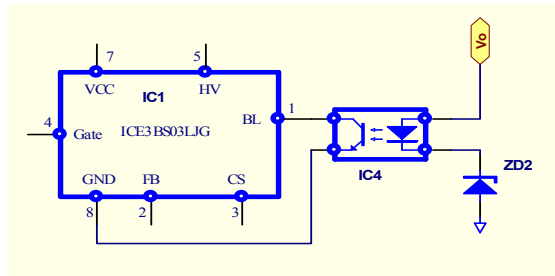

Figure 24 Output OVP circuit
1. Output over voltage : Figure 24 shows the output OVP latch circuit.